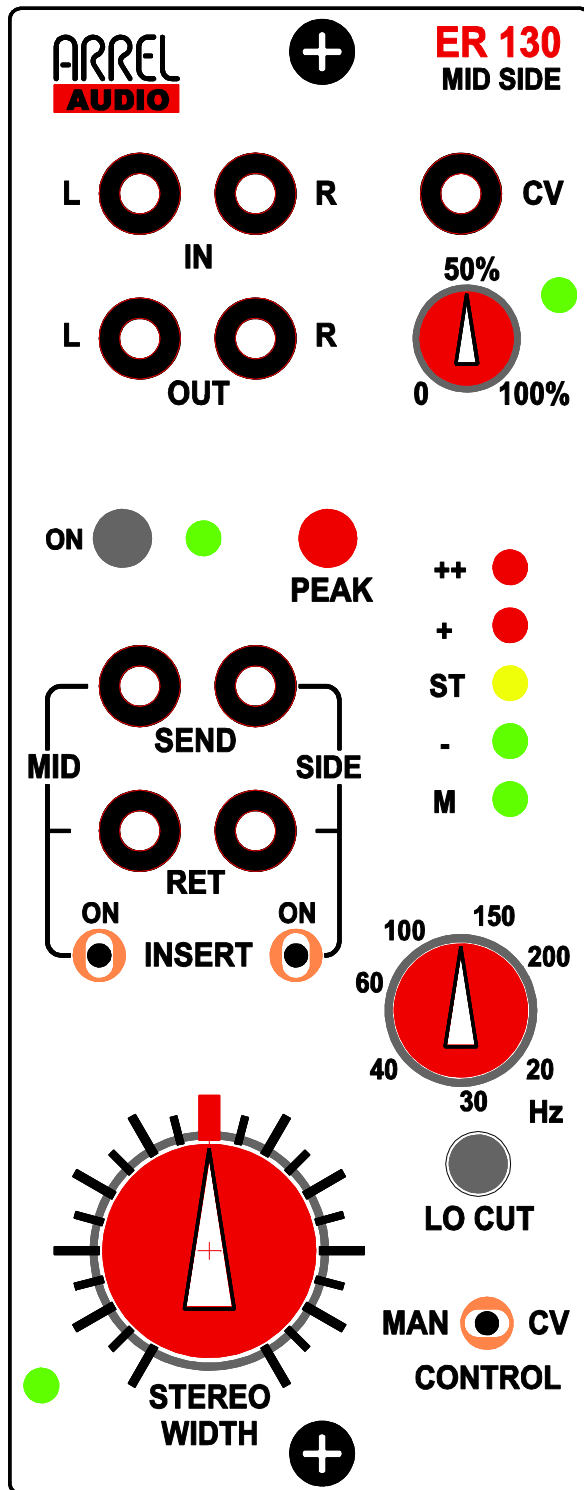

FIG. 1 ER-130 Front Panel
Selects manual control of the stereo width or CV mode. In CV mode the control voltage is applied on the corresponding jack. The voltage range can be 0-10 V. The potentiometer below CV jack controls the depth of the action of the CV (Fig.1).
3.5 mm connectors for the input signal (Fig.1).
3.5 mm connectors for the output signal (Fig. 1).